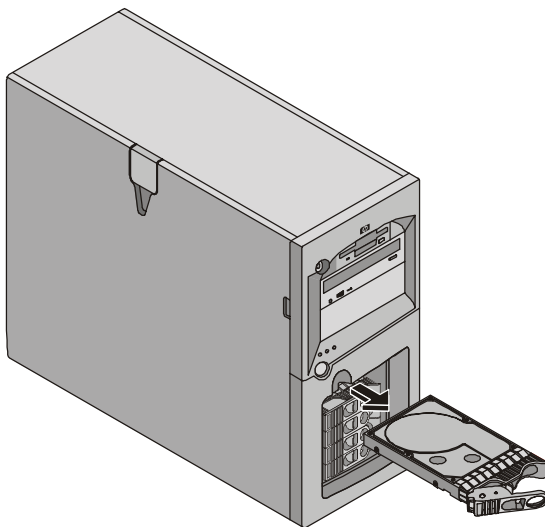

Figure 3-12. Removing Hot Swap Hard Drive
5. Use your hand to support the bottom of the drive, while you slowly pull the drive straight out. Do not allow the drive to fall. See Figure 3-12.